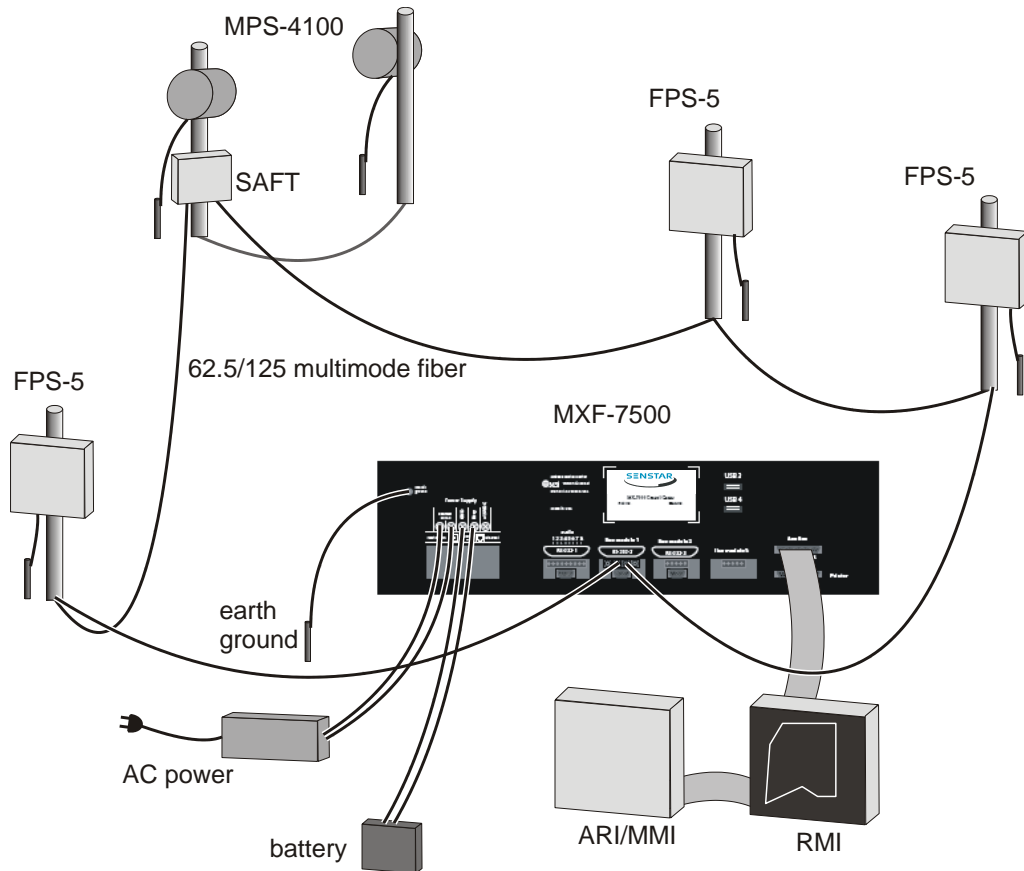

Figure 13 MXF-7500 FPS-5 and SAFT fiber optic system connections
Figures 13 and 23 show the typical fiber optic interconnection of components. The interconnect cable should be run in conduit, either underground or along the base of the fence.
2. Connect the FPS-5 / SAFT fiber transponder loops to the MXF-7500 rear panel as shown in Figure 13 and Figure 23. If there are multiple loops, connect each to the appropriate MX fiber loop card.